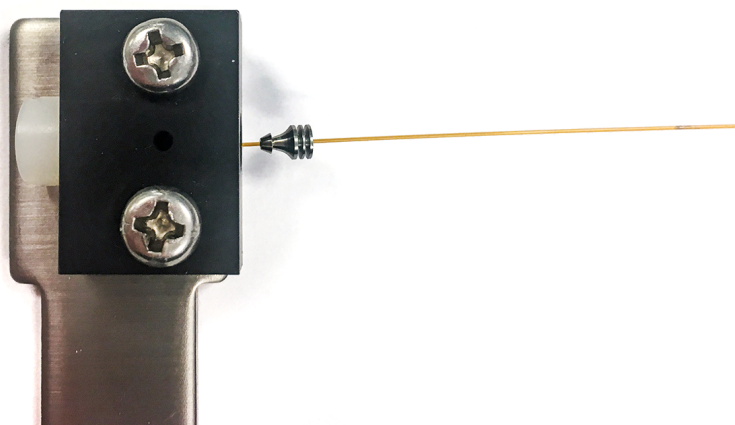

Figure 10. Thread the internal nut into the swaging tool
5. Thread the internal nut into the swaging tool until finger tight. See Figure 10.